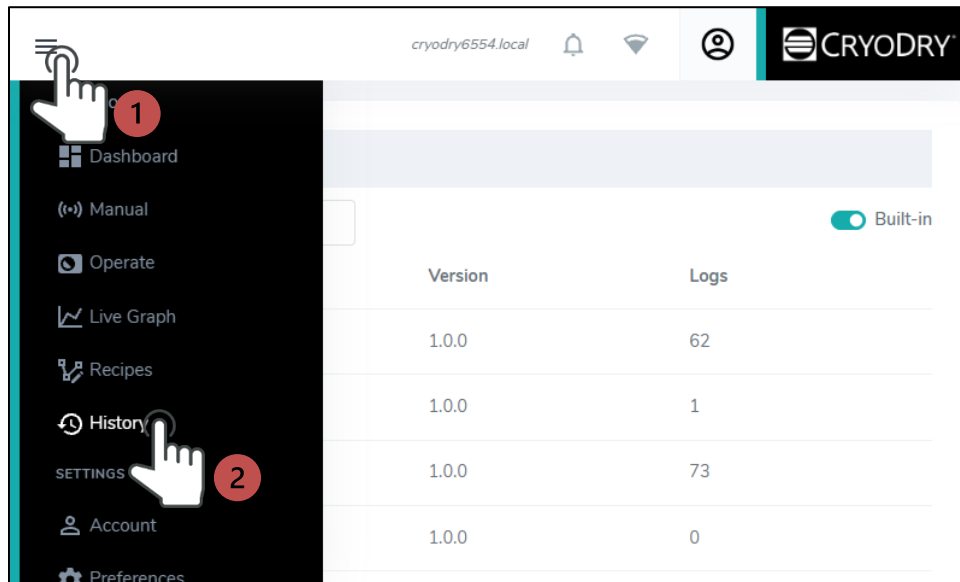

Figure 78
2. Then “History” from the left sidebar (Figure 78).